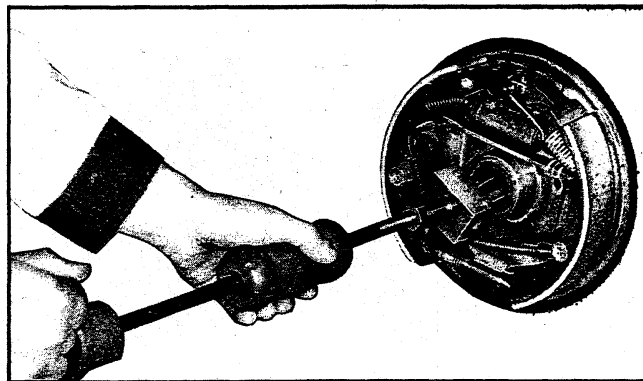
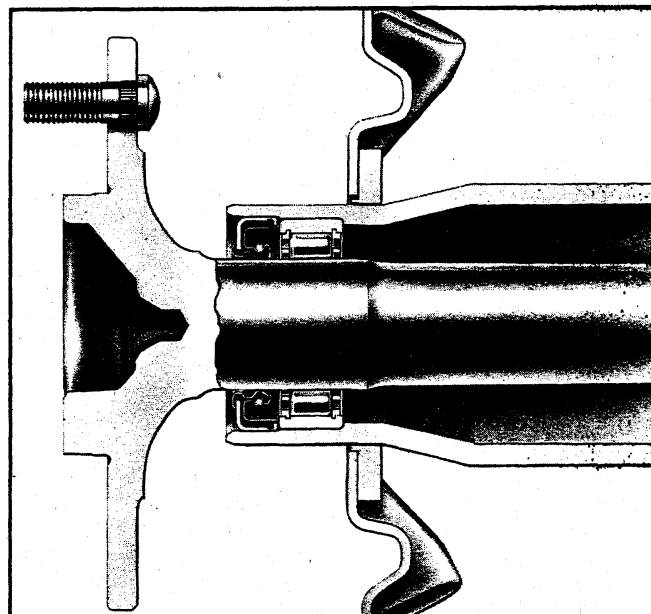

Fig. 79—Wheel Bearing Removal
Fig. 80—Axle Housing Detail
2. Insert Tool J-8119 into bore and position it behind bearing so that tangs on tool engage bearing outer race. Remove bearing, using slide hammer as shown in Figure 79. Figure 80 shows a detail of axle housing outer end.